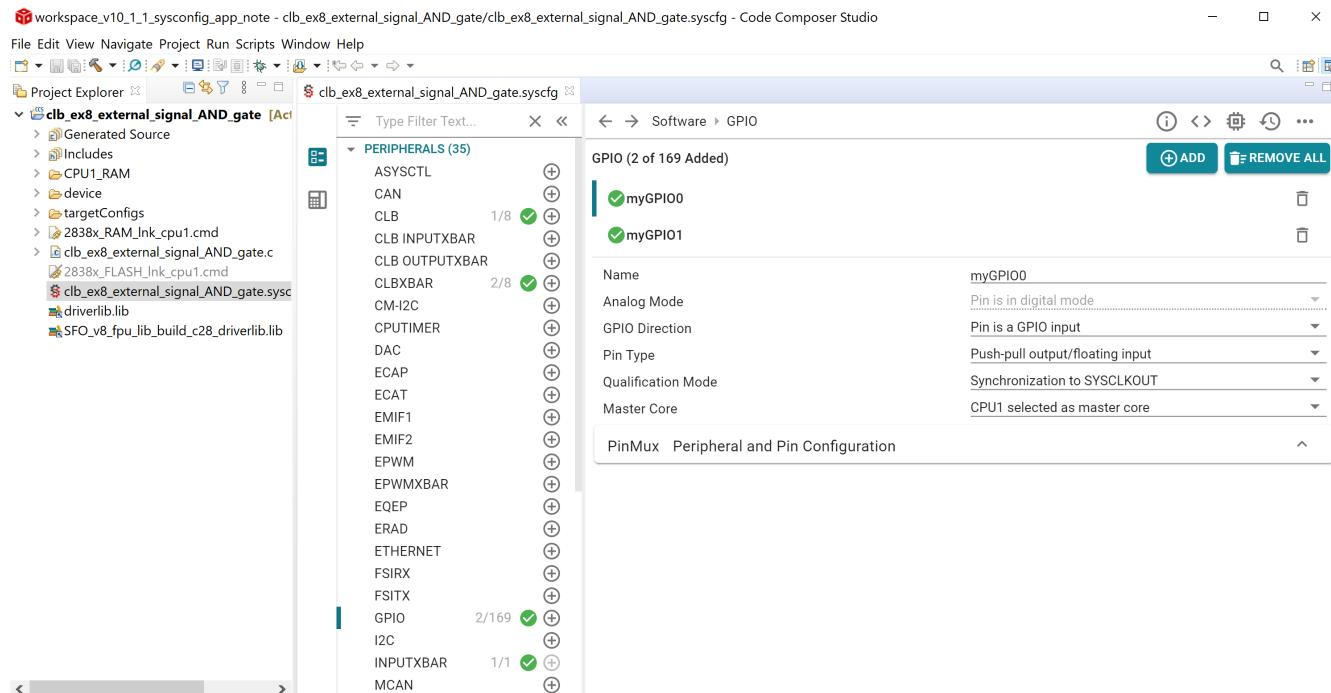

Figure 2-3. C2000 SysConfig GUI
4. The C2000 SysConfig GUI should be launched inside CCS and should look similar to one shown in Figure 2-3.